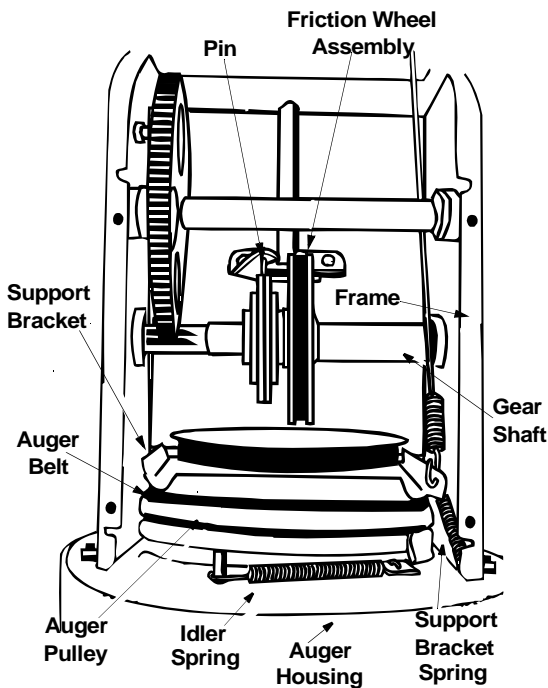

Figure 23
- Unhook the idler spring from the hex bolt on the auger housing. See Figure 23.
- Slide friction wheel assembly back onto the gear shaft. Be sure to align the pin on the shift rod with the hole in the friction wheel assembly. See Figure 23. Reassemble in reverse order.